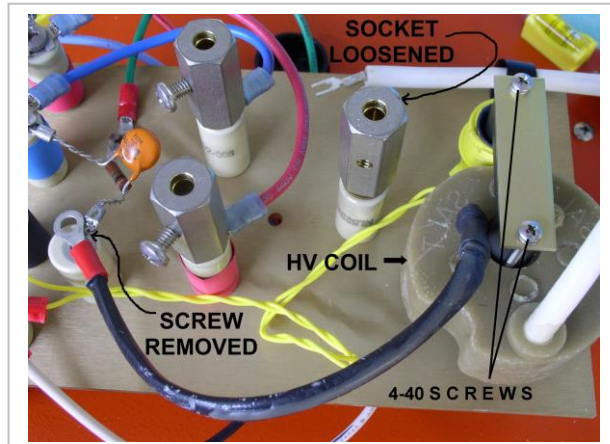

Figure 18a
- Loosen the hex socket identified in Figure 18a. It may be necessary to grip the ceramic post with pliers in order to loosen the socket.
- Remove the terminal screw identified in Figure 18a that secures the black wire from the HV coil.
- Remove the two 4-40 screws and the flat plate identified in Figure 18a.
- Re-attach the white wire to the hex socket identified in Figure 18a, and tighten the socket to the insulating post.
- Re-attach the black wire from the HV secondary coil to the ceramic insulating post also identified in Figure 18a.